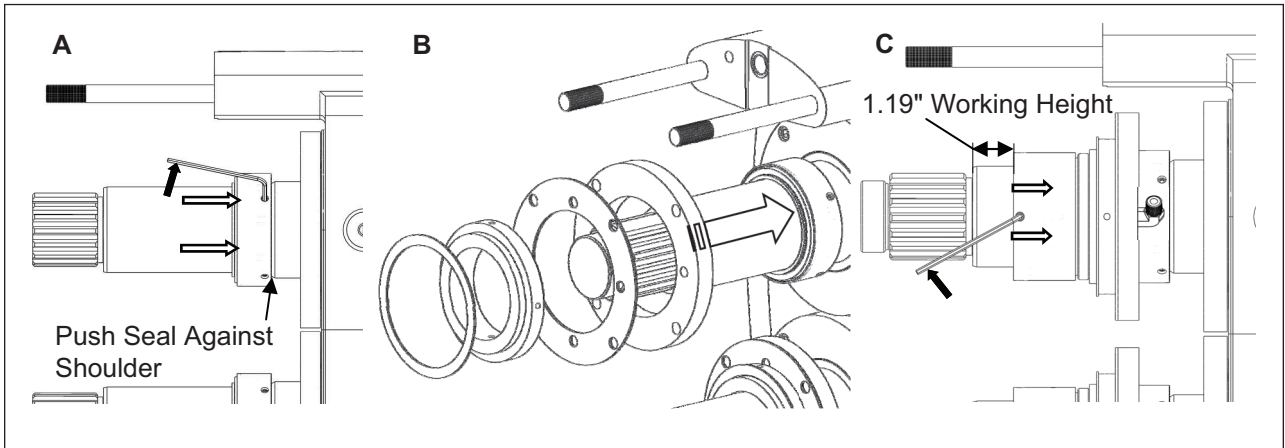

Figure 41. ZP1 320 Double Mechanical Seal Assembly
**Assembly:** Clean both shaft ends and the body before assembling. Slide the back rotating seal assemblies onto the shafts with the seal face towards the splines until it seats against the shaft shoulder. With the seal pushed against the shoulder, lock it in place by tightening the set screws (*Figure 41, A*). In this order, slide the seal glands, outer gaskets, stationary seals,
and inner gaskets onto the shafts (*Figure 41, B*). Slide the front rotating seal onto the shaft with the seal face towards the stationary seal and lock it in place at the desired working height of 1.19" (30 mm) by tightening the set screws (*Figure 41, C*). Make sure all seal faces are clean. See Pump Assembly on *page 37* to continue.